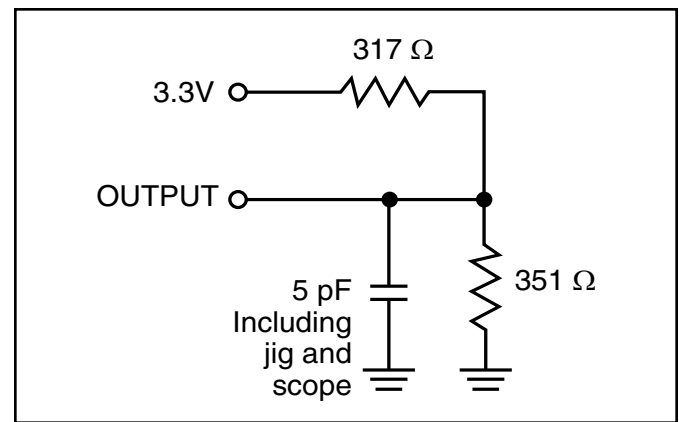

Figure 2
3. Tested with load in Figure 2.